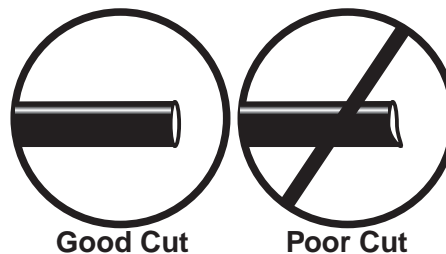

fig. 11
WHEN CUTTING OR TRIMMING THE AIR LINE, USE A HOSE CUTTER, A RAZOR BLADE, OR A SHARP KNIFE. A CLEAN, SQUARE CUT WILL ENSURE AGAINST LEAKS. DO NOT USE WIRE CUTTERS OR SCISSORS TO CUT THE AIR LINE. THESE TOOLS MAY FLATTEN OR CRIMP THE AIR LINE CAUSING IT TO LEAK AROUND THE O-RING SEAL INSIDE THE ELBOW FITTING (FIG. 11).
- a. Check the air line connection by deflating the spring and removing the line by pulling the collar against the fitting and pulling firmly on the air line. Trim 1" off the end of the air line. Be sure the cut is clean and square (see fig. 11). Reinsert the air line into the push-to-connect fitting.